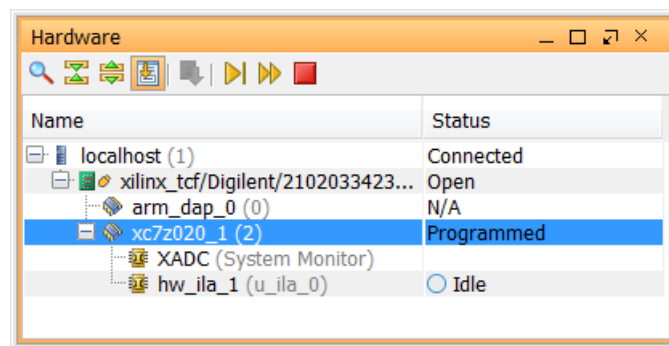

**Figure 42: Launch Open New Hardware Target Wizard**
4. In the Hardware Manager window, click **Open target** and select **Open New Target** to open a connection to the Digilent JTAG cable for ZC702, as shown below in Figure 42.